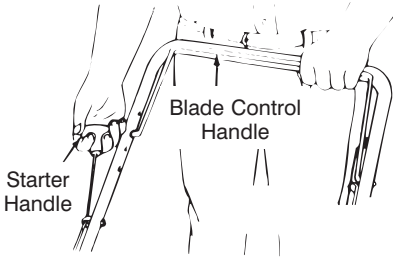

Figure 12
- Grasp the recoil starter handle as shown and pull slowly until resistance is felt, then pull rapidly to start engine and avoid kickback. Return it slowly to the rope guide bolt. See Figure 12.